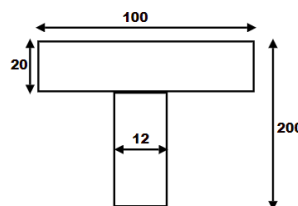

Figure 4
- (b) A beam of T section has a length of 2.5 m and is subjected to point load W, T section is shown in Figure 4. Calculate the compressive, bending stress and plot the stress distribution across the cross section of beam. The maximum tensile stress is limited to 300 MPa. Calculate the value of point load W. [7M]